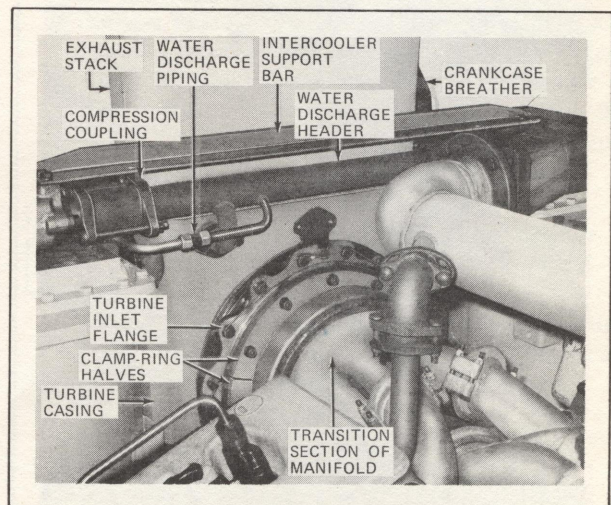

FIG. IX-105. TURBO INSTALLATION DETAILS - TURBINE END, WITH SINGLE-PIPE EXHAUST MANIFOLD.
- (1) Remove bolts and lockwashers which secure the clamp-ring halves, Fig. IX-105, to the turbine inlet flange. Remove the clamp-ring halves.
- (2) Remove the lockwires and the four lower bolts and washers which secure the turbine inlet flange to the turbine casing.